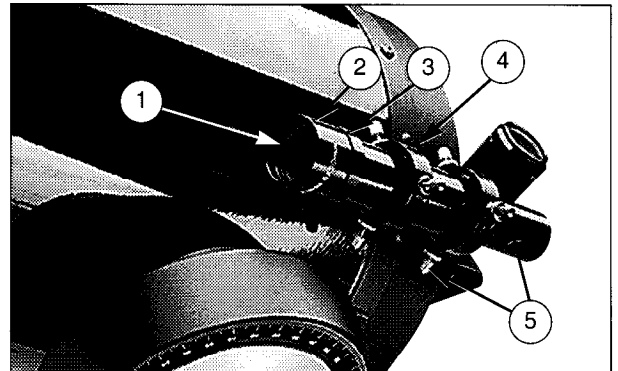

Fig. 15: The Viewfinder. (1) Objective Lens; (2) Lens Cell; (3) Focus Lock Ring; (4) Viewfinder Mounting Bracket; (5) Viewfinder Collimation (alignment) Screws.
- Remove the viewfinder from its mounting bracket (4), Fig. 15, by slightly unthreading the six alignment screws (5) Fig. 15, until the viewfinder can slip out easily.
- Loosen the viewfinder focus lock ring (3) Fig. 15, at the objective-lens-end of the viewfinder, enabling rotation of the objective lens cell (2), Fig. 15, clockwise or counterclockwise for precise focusing while looking at a distant object through the viewfinder.
- After a precise focus has been achieved, tighten the viewfinder focus lock ring (3) Fig. 15, against the objective lens cell to lock the focus in place.
- The viewfinder bracket includes six alignment screws (5), Fig. 15. Turn the three rear-most alignment screws so that the viewfinder tube is roughly centered within the viewfinder bracket, as viewed from the eyepiece-end of the telescope.